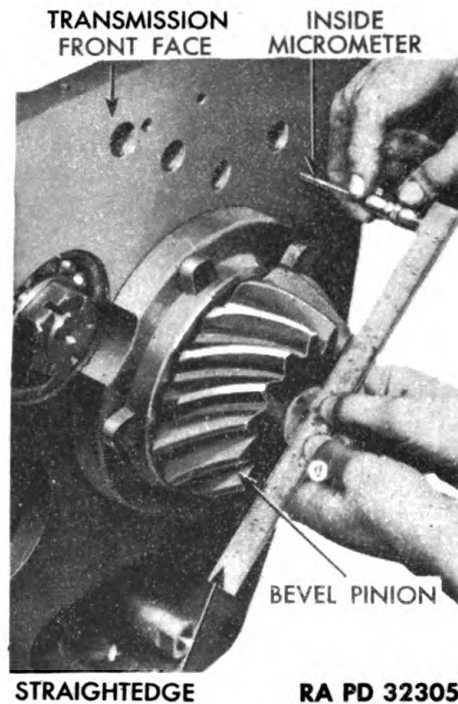
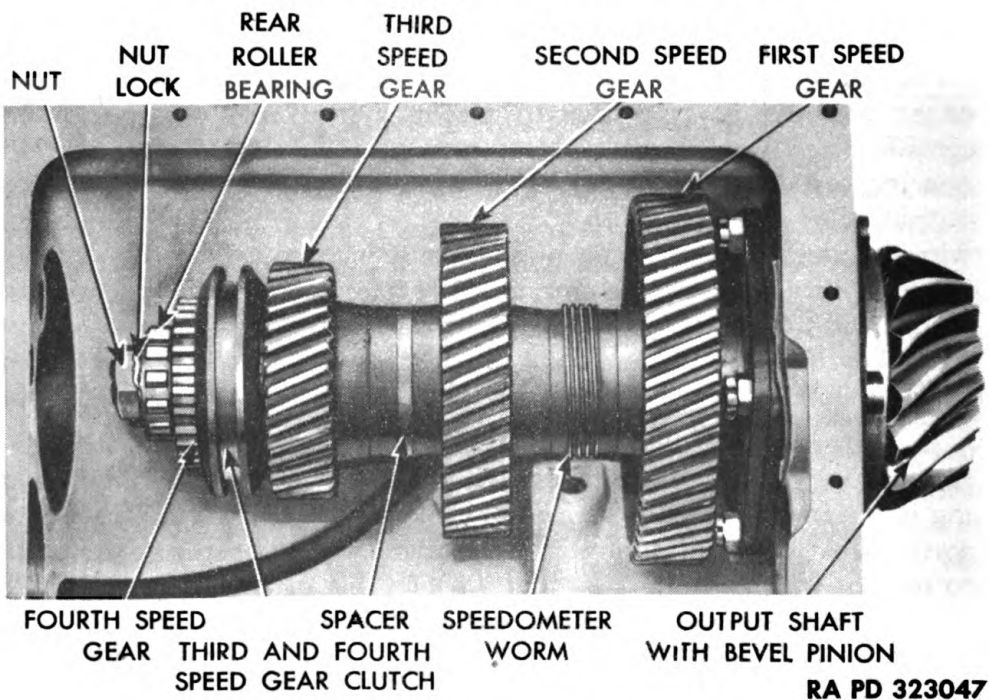

Figure 46 — Checking Distance from End of Bevel Pinion to Face of Transmission Case, Using Tool (41-C-304)
Figure 47 — Output Shaft Assembled
l. Remove and Disassemble Output Shaft with Bevel Pinion Assembly. *NOTE: If a new transmission case is to be installed, the old case must be removed from the differential and final drive housing before removing the output shaft assembly. After transmission case is removed, check the dimension from end of bevel pinion to front face of case, using tool (41-C-304) (fig. 46). If the same bevel pinion and drive gear are used again, the dimension from the end of bevel pinion to front face of new transmission case must be the same. Remove or add shims to the shim pack until dimension is correct. If the dimension with the new case is greater, add shims; if it is less, remove shims. This is necessary to secure the proper bevel pinion and bevel drive gear tooth contact. Remove third and fourth speed gear clutch from fourth speed gear (fig. 47). Straighten rear bearing*